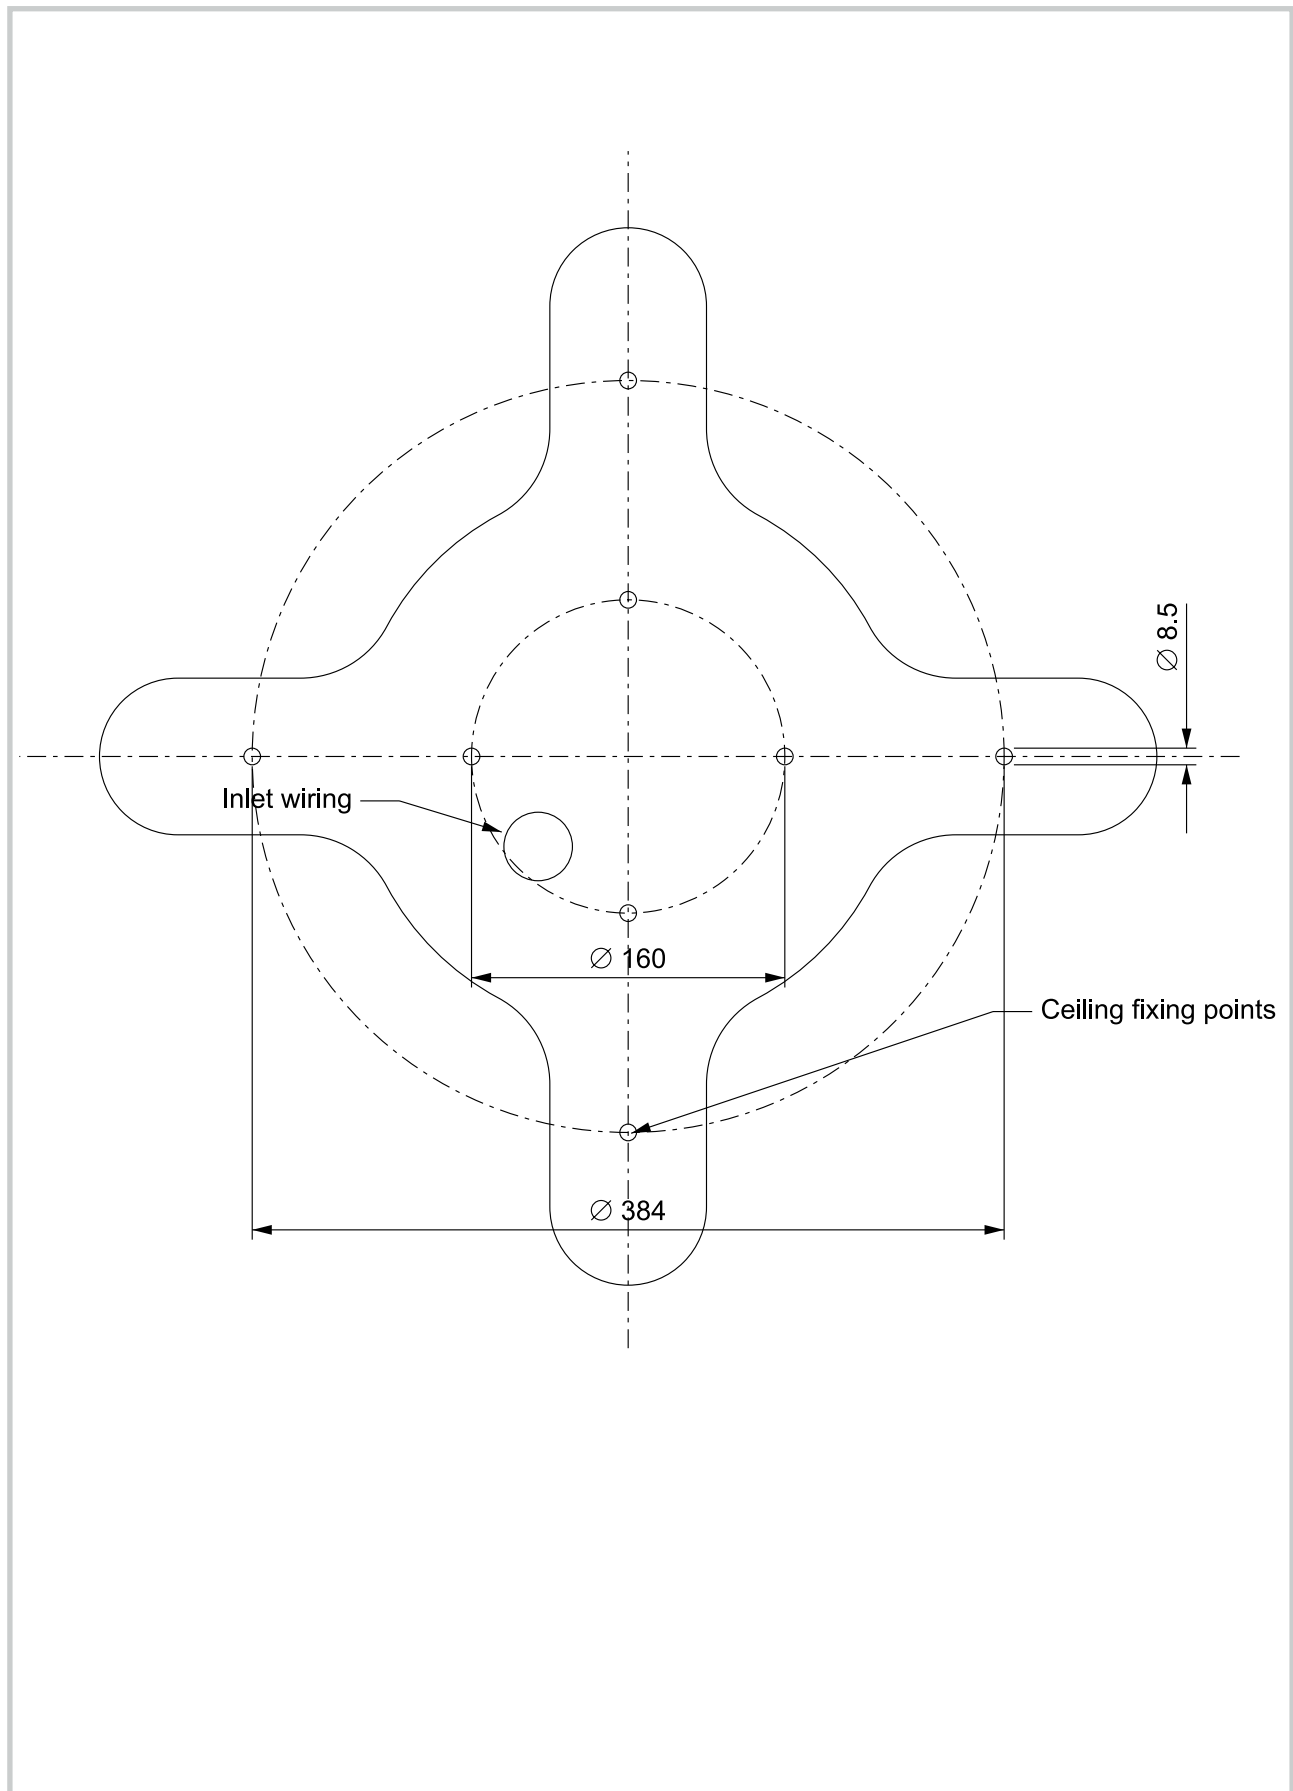

Fig.1
Svitare il dado H e sfilare l'anello G. (Fig.1)
- 1 Unscrew from pivot the metal final M and the washers L and I. Unscrew the nut H and take off the ring G.(Fig.1)